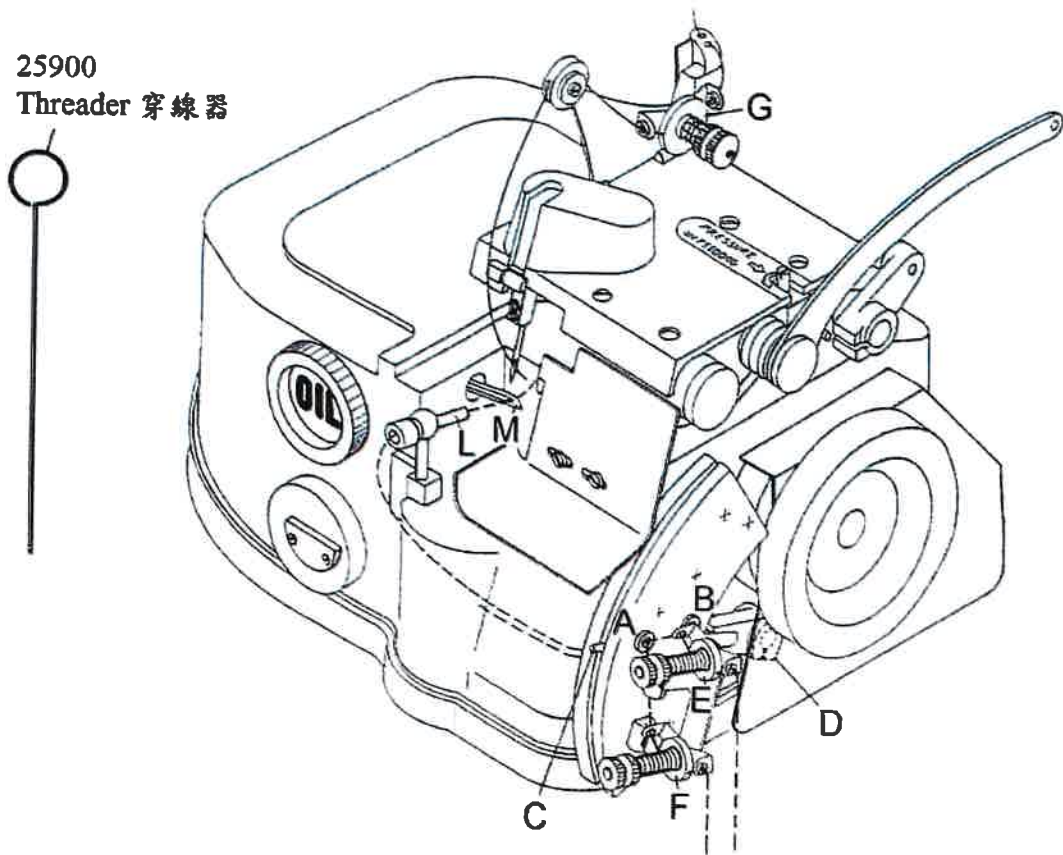

Fig. 2
Bring take up (C, Fig. 2) to its highest position. Bring looper thread through thread tension (E) and (F) to threading hole (A). Bring take up (C) to its lowest position and be sure looper eye (M) face threading tube (L). Remove needle and bring needle thread through thread tension (G) to looper eye (M).